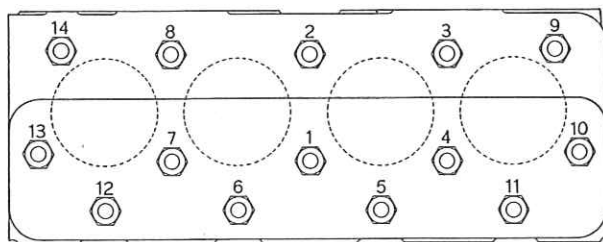

Fig. 72. - Cylinder head stud nut tightening sequence.
- Follow the tightening order of cylinder head nuts according to Fig. 72.